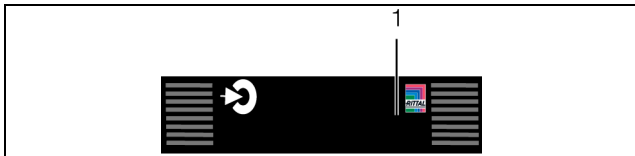
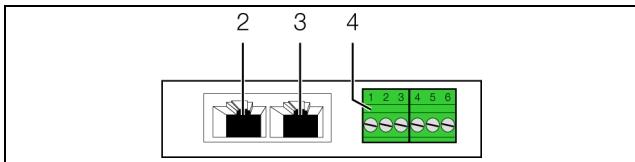

Fig. 11: Front of the universal sensor
Fig. 12: Rear of the universal sensor
A multi-LED for the status display is integrated into the front of the universal sensor (fig. 11, item 1). Further LEDs are located at the rear on the CAN bus connection (fig. 12, item 2 and item 3).